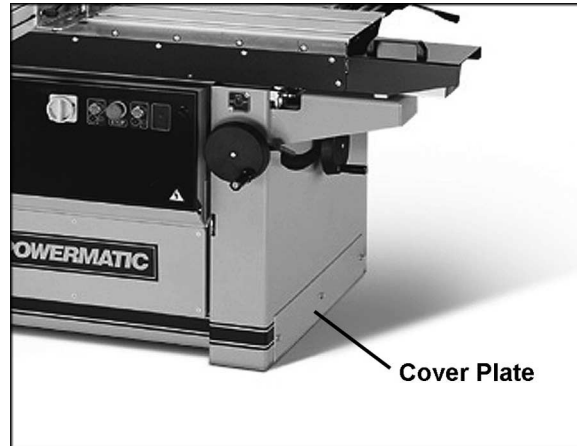

Figure 2
1. Lift the machine off the pallet with crane or forklift, using a hoist. When the machine is sitting on the ground, it can be lifted by removing the side cover plate (Figure 2) and sliding forks through the two openings.